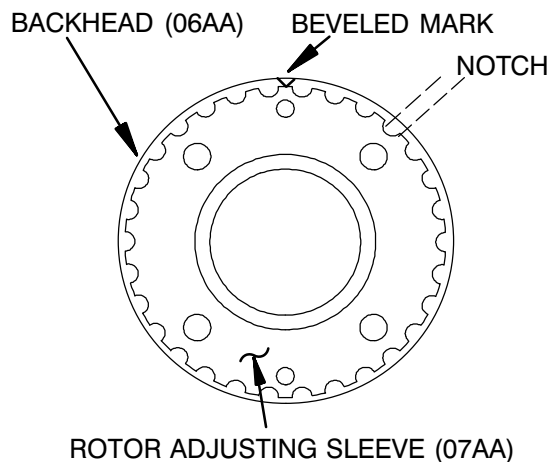

Figure E-6. End Clearance Adjustment
Loosen the setscrews (GA) in the rotor adjusting sleeve. Turn the rotor adjusting sleeve (07AA) clockwise until the rotor bottoms against the head (zero clearance), and install the bearing lockwasher (03B) and locknut (03C) as previously described. See Figure E-6 and mark the rotor adjusting sleeve (07AA) at the beveled mark on the backhead (06A).